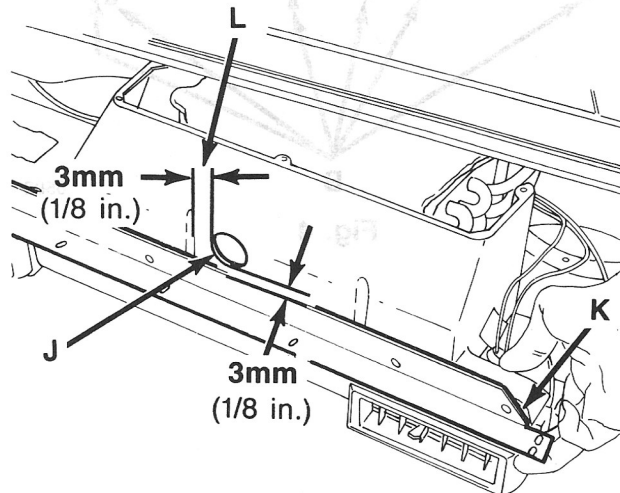

Fig. 10
7. Drill a 31.75 mm (1 1/4 in.) hole (J) through the front of the evaporator housing (Fig. 10).